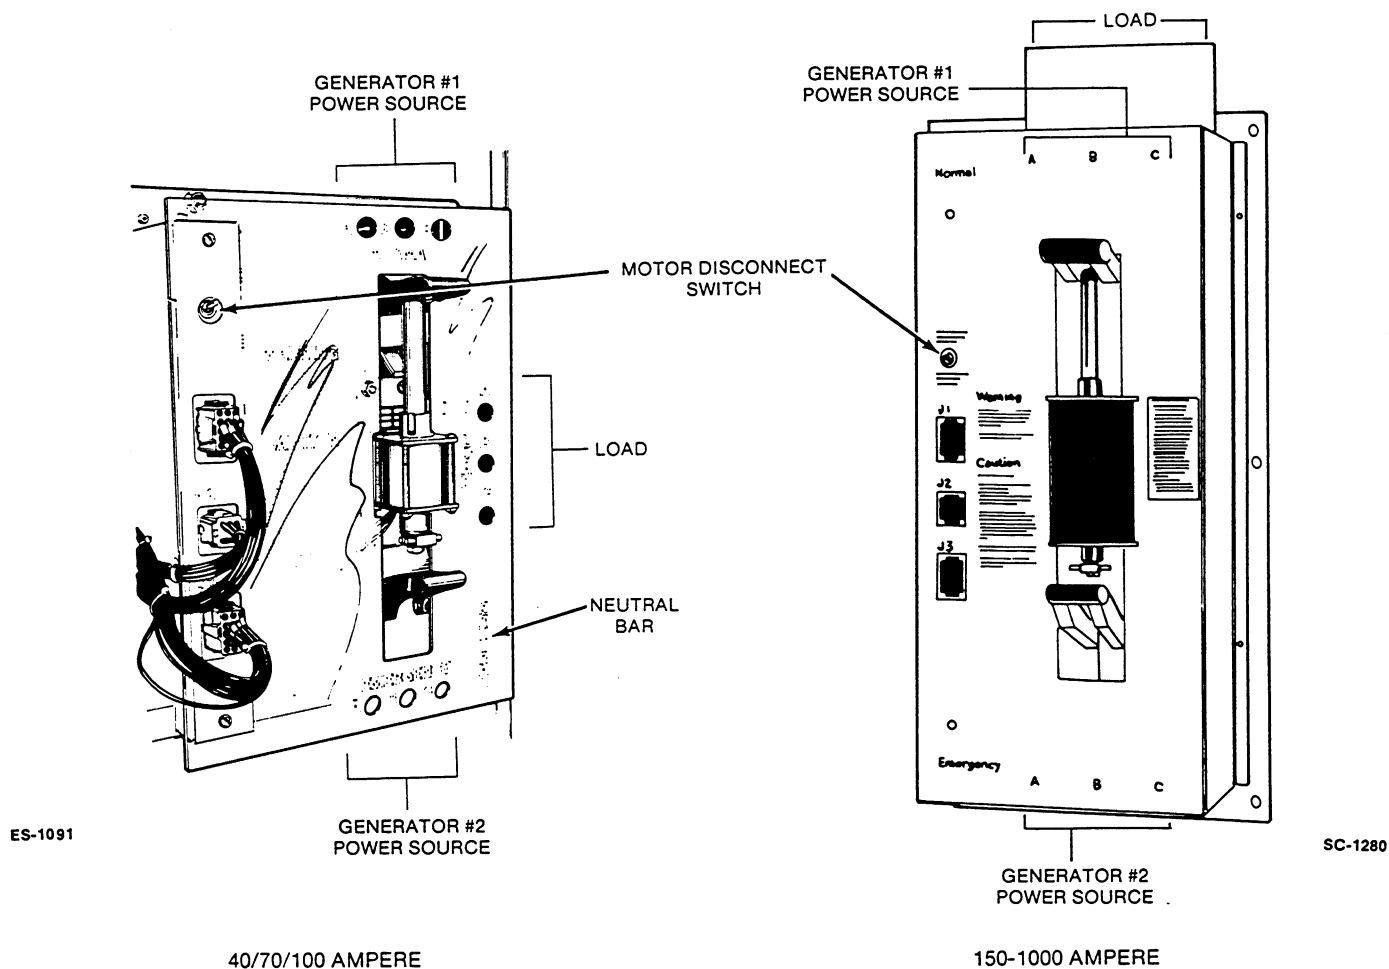

FIGURE 3. TRANSFER SWITCH WIRE CONNECTIONS
3. Connect wires of sufficient size to carry rated current from the load and generator sets to the transfer switch terminals marked A, B, and C (A and B on single-phase switches). Table 1 gives the type and maximum wire size the transfer switch will accept. Figure 3 shows transfer switch connections.
3. Motor disconnect switch must be in the up position for automatic operation (Figure 3). Close OT cabinet door.
Place the Motor Disconnect Switch (Figure 3) in the down position when making adjustments. Return switch to up position after adjustments are completed.